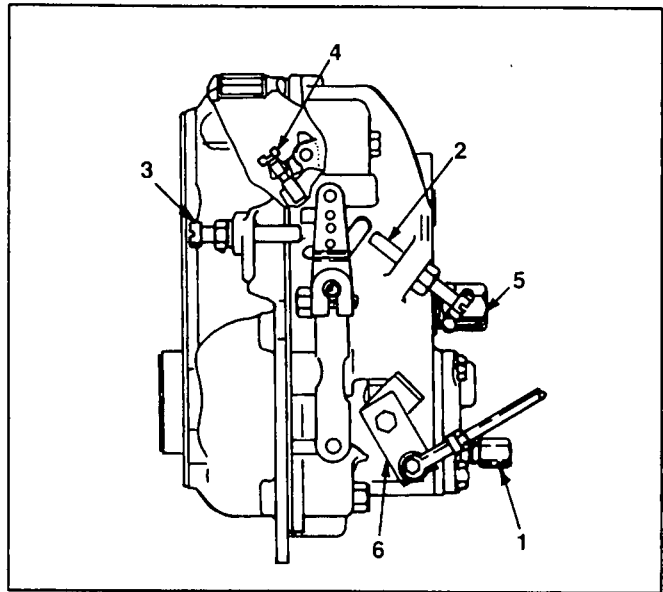

Figure 2. Adjustments on a Typical Governor
See Figure 2. A typical diesel governor provides the following adjustments:
2. See Figure 2. With engine running at no-load, turn the STOP ADJUST SCREW (Item 2) to obtain correct no-load AC frequency (62 Hz on units rated 60 Hz).